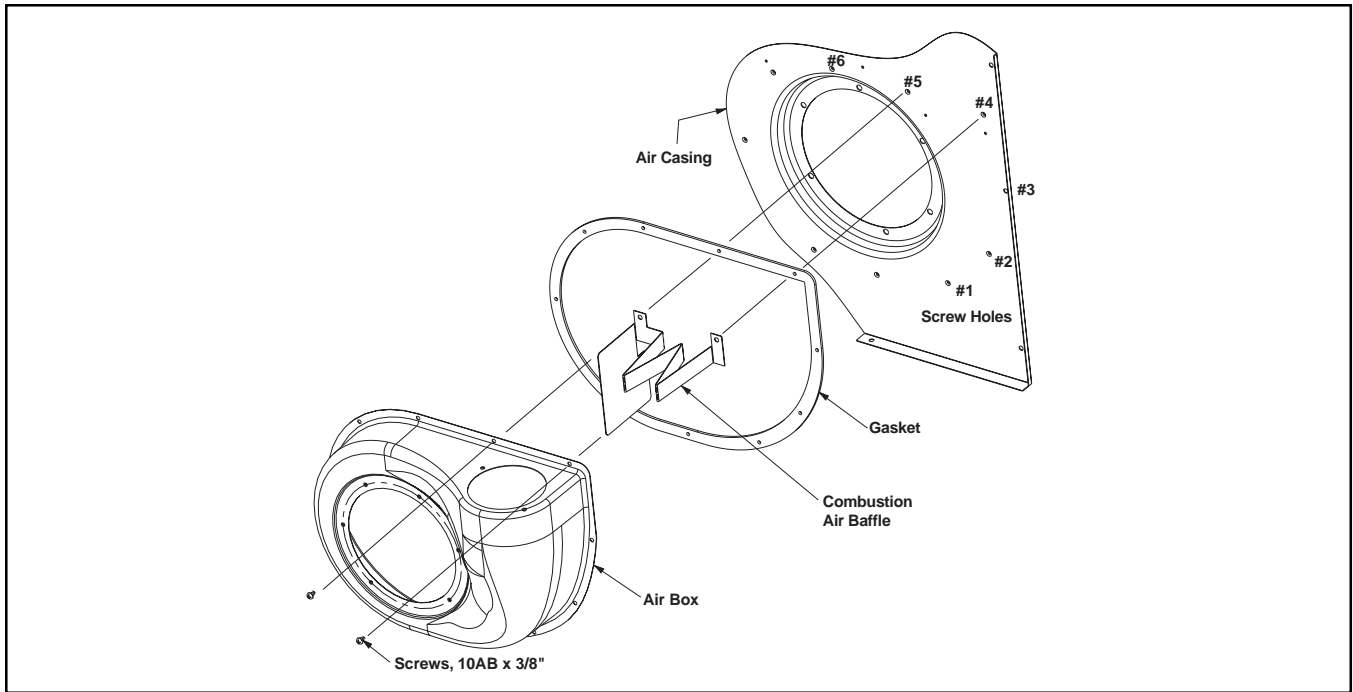

Figure 3. Combustion Air Baffle Assembly
1. Remove the six top and left screws, #1,2,3,4,5, and 6 of air box as shown in Figure 3.